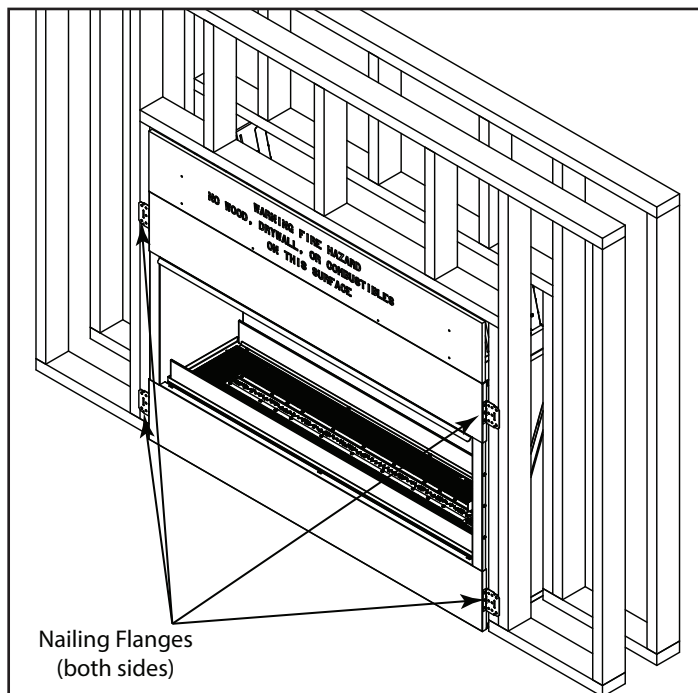

Figure 4.1. Positioning and Securing Nailing Tab
- Nailing tabs must be moved from shipping position to installation position and secured to framing. Bend the four nailing tabs out on each side. See Figure 4.1.